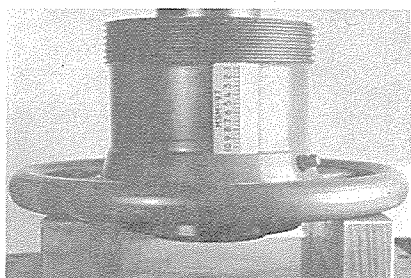

Figure 6
2. Using a piece of shafting or pipe slightly smaller than the bore of the handwheel hub, press the bearing and brass seal ring from the hub as in Figure 6.